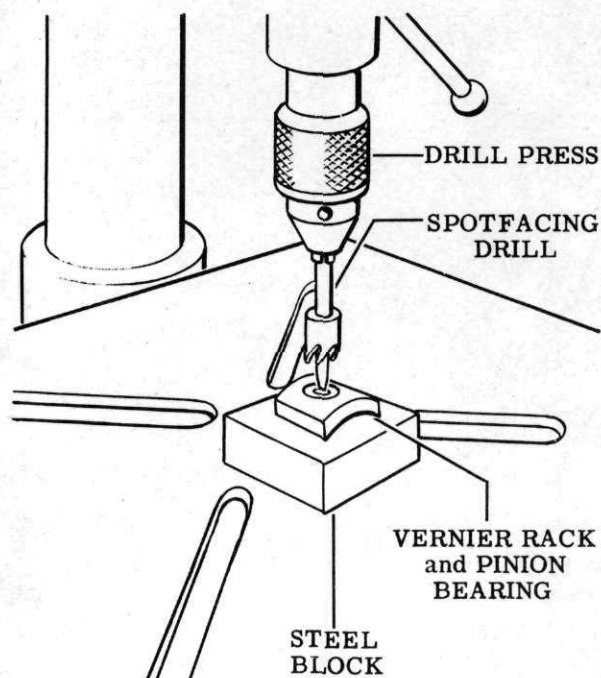

Figure 23
1. Place the vernier rack and pinion bearing on a flat steel block. Then, using the spotfacing drill (Tool No. 21), spotface the outer surface of the bearing. See Fig. 23 and refer to the "Special Service Tool List" in Section VIII for further details of the tool employed here.